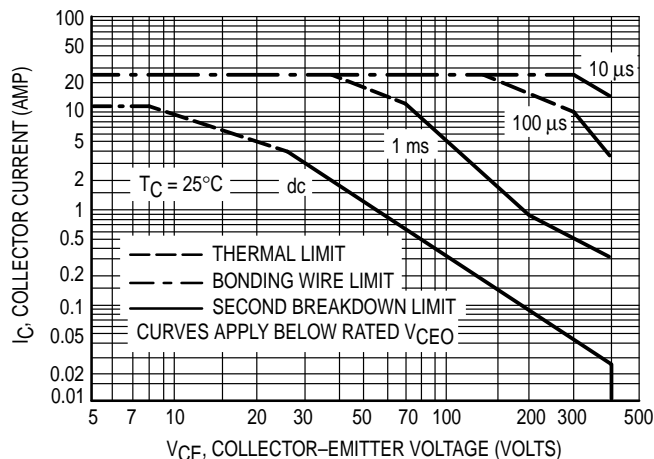
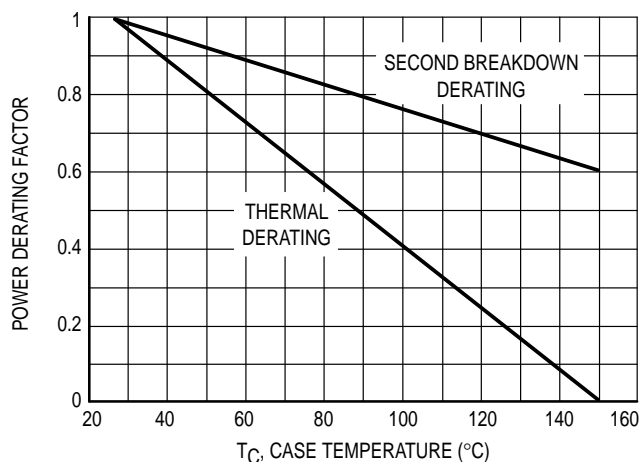

Figure 1. Forward Bias Safe Operating Area
Figure 3. Forward Bias Power Derating
The Safe Operating Area figures shown in Figures 1 and 2 are specified ratings for these devices under the test conditions shown.
The data of Figure 1 is based on $T_C = 25^\circ\text{C}$; $T_{J(pk)}$ is variable depending on power level. Second breakdown pulse limits are valid for duty cycles to 10% but must be derated when $T_C \geq 25^\circ\text{C}$. Second breakdown limitations do not derate the same as thermal limitations. Allowable current at the voltages shown on Figure 1 may be found at any case temperature by using the appropriate curve on Figure 3.
The sustaining or active region voltage requirements in switching applications occur during turn-on and turn-off. If the load contains a significant capacitive component, high current and voltage can exist simultaneously during turn-on and the pulsed forward bias SOA curves (Figure 1) are the proper design limits.
- (1) The device thermal limitations are not exceeded.
- (2) The turn-on time does not exceed 10 μ s (see standard pulsed forward SOA curves in Figure 1).